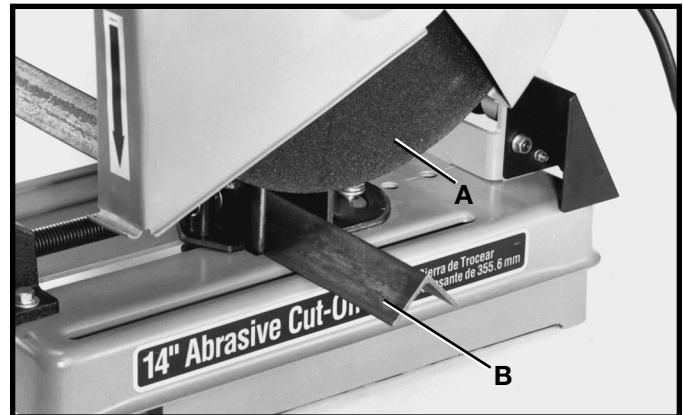

Fig. 19
After clamping the workpiece securely in the vise, turn the machine on and allow the motor to come up to full speed. Lower the wheel (A) lightly until it comes into contact with the workpiece (B), as shown in Fig. 19. Do not allow the wheel to chatter and jump as this may cause the wheel to wear out of round, resulting in poor quality cutting and possible broken wheels.